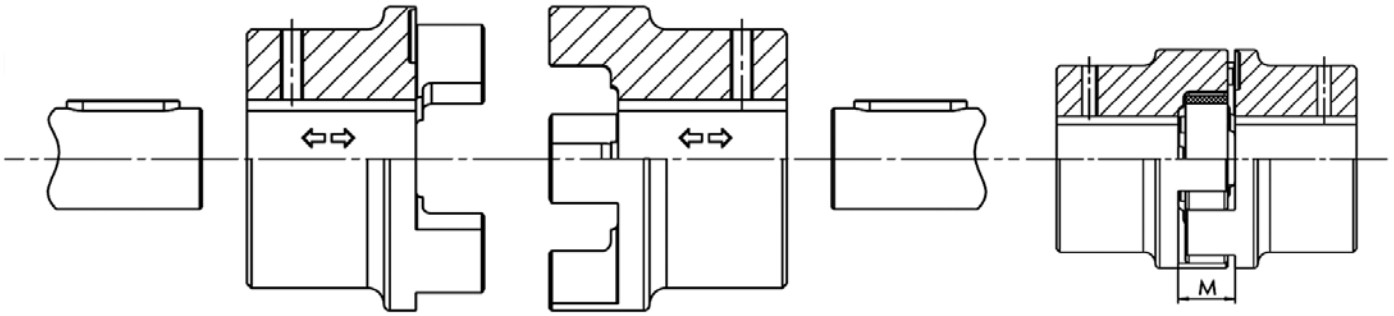

Figure 4-2 - GRMP: mounting
- Install the hubs on the driving and driven shafts (see FIGURE 4.2 - GRMP: mounting)
- Check the driving and driven hub to achieve the value **M** (see FIGURE 4.2 and TABLE 4.1)